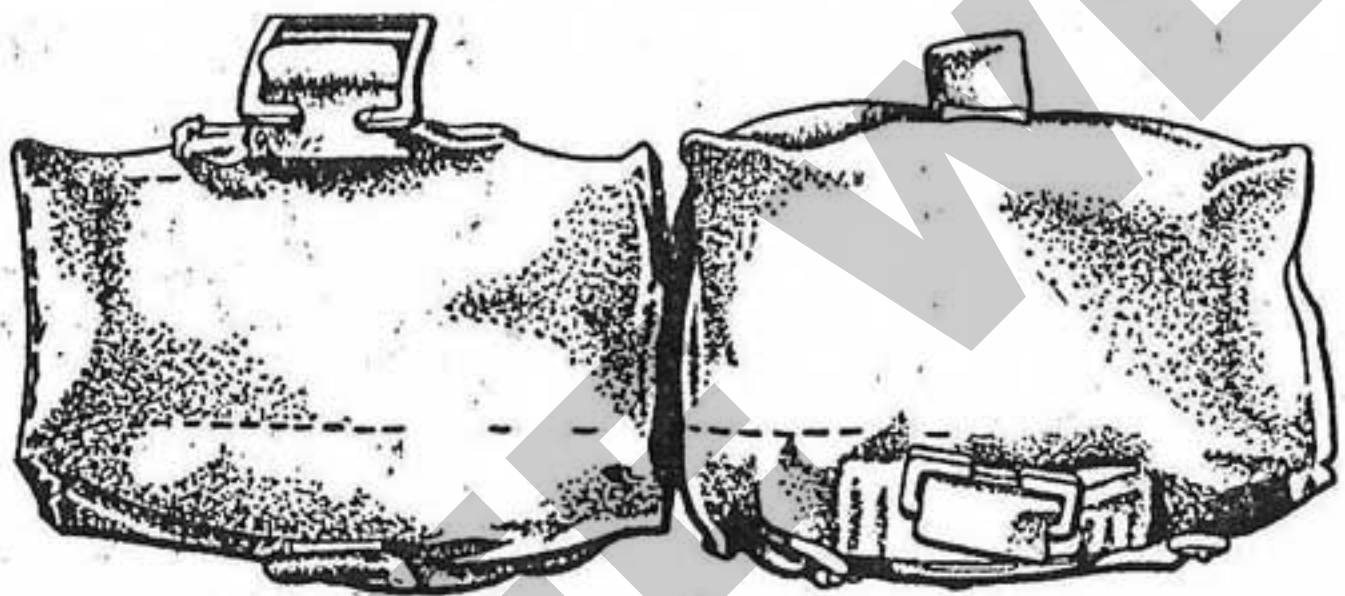
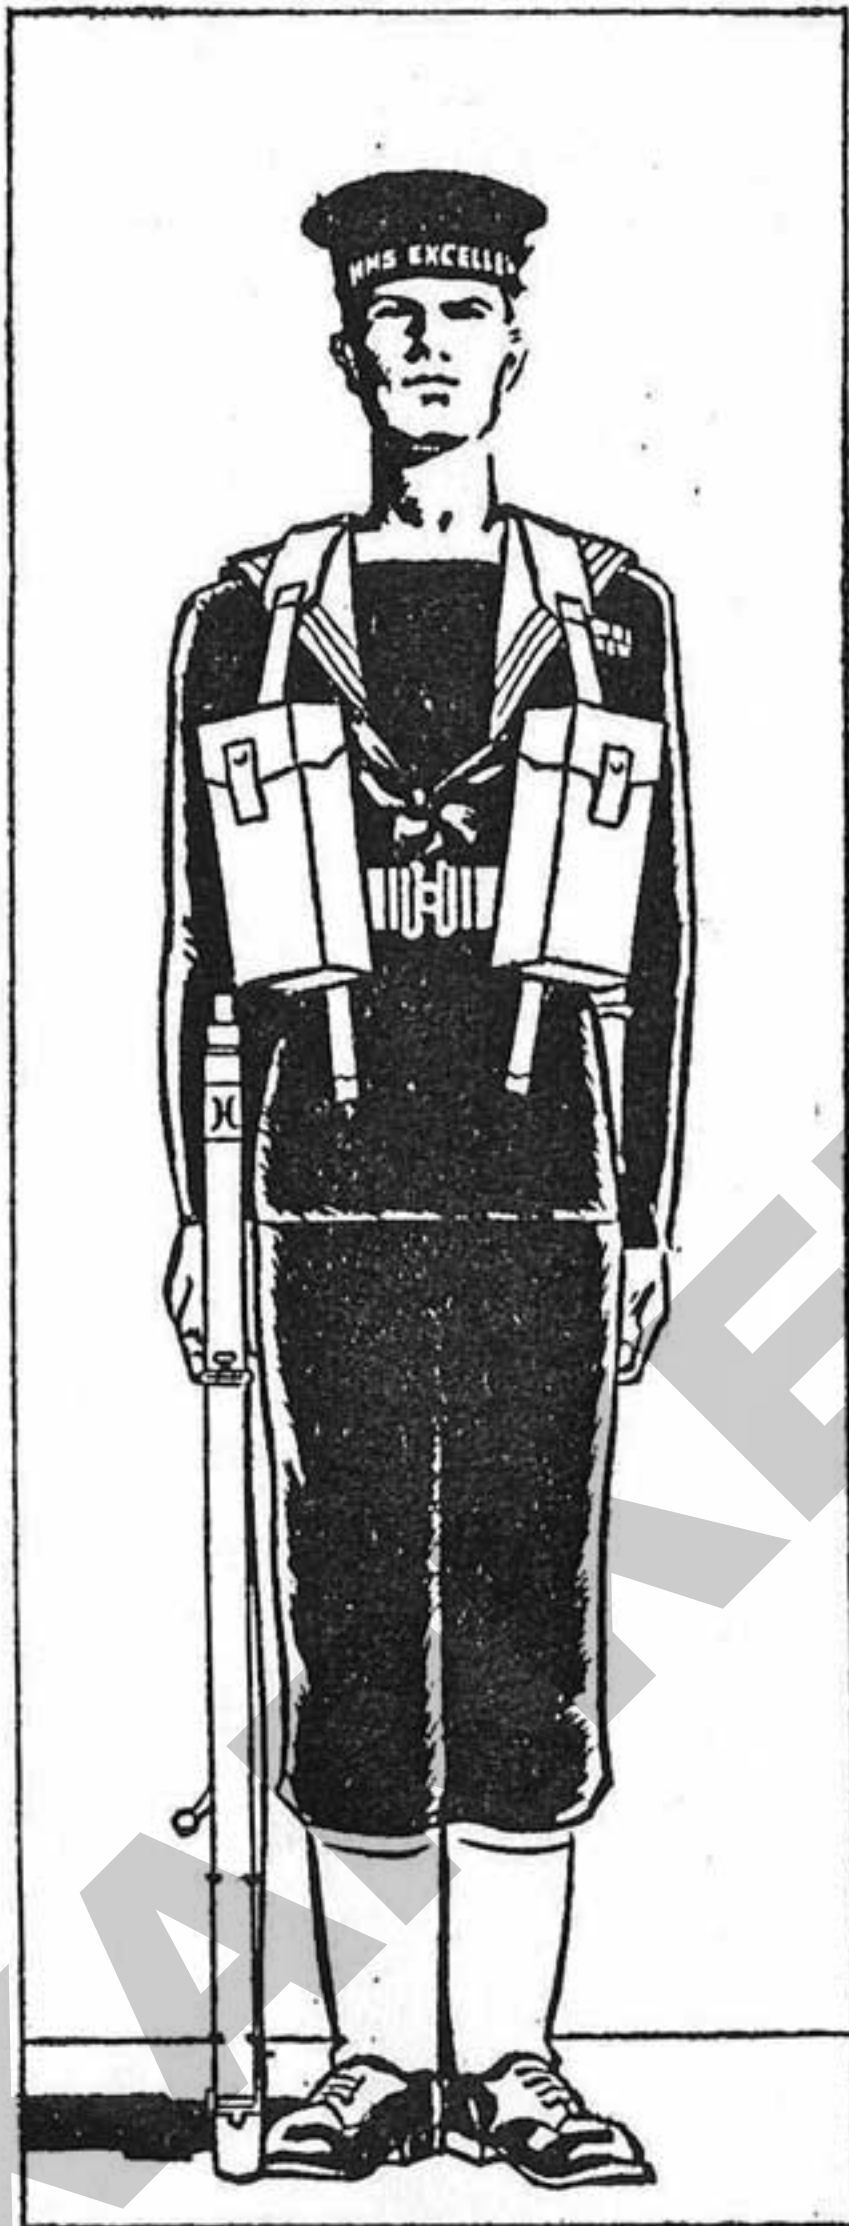

Fig. 4. Basic pouches, top view
Fig. 6. Position of basic pouches
10. These are designed to carry ammunition or Bren magazines. A typical "carry" for the rifleman of a section is two Bren magazines in each pouch, or two Bren magazines in one pouch and fifty rounds of .303 ammunition in the other. Grenades cannot be carried in the pouches together with other ammunition. There is no specific place for grenades to be carried, but they are usually placed in the haversack. The pouches (see Figs. 4 and 5) are fitted with metal prongs which fit into the canvas sockets on the inside of the belt. They are worn on the front of the equipment, equidistant from the centre buckle and so that the arms are free to move across the front of the body. (See Fig. 6.)